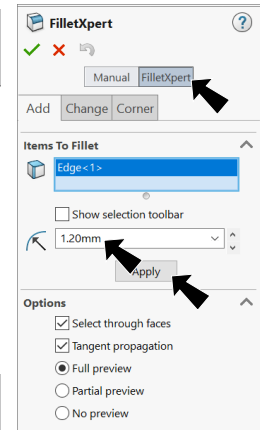

Fig. 56
Step 2. In the Fillet Property Manager set: select FilletXpert, Fig. 56
④ Radius  1.2